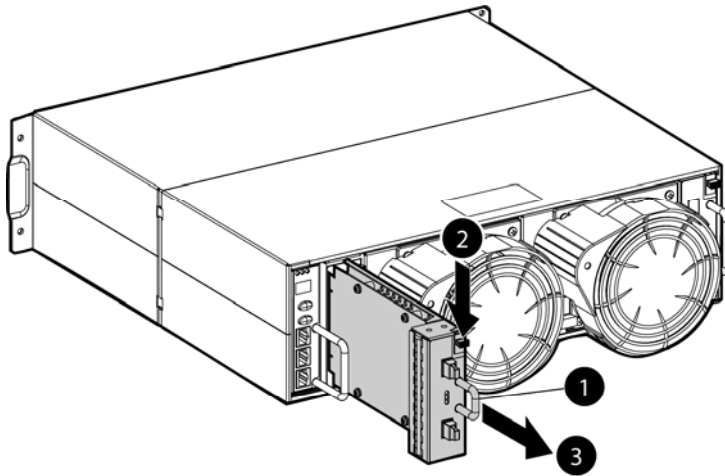

Figure 52 Removing an I/O module
3. Grasp the I/O module handle (1, Figure 52), press down on the module latch (2, Figure 52), and pull the I/O module straight out of the enclosure (3, Figure 52). Take care not to tilt it or bring it into contact with the sides of the rack or other components.